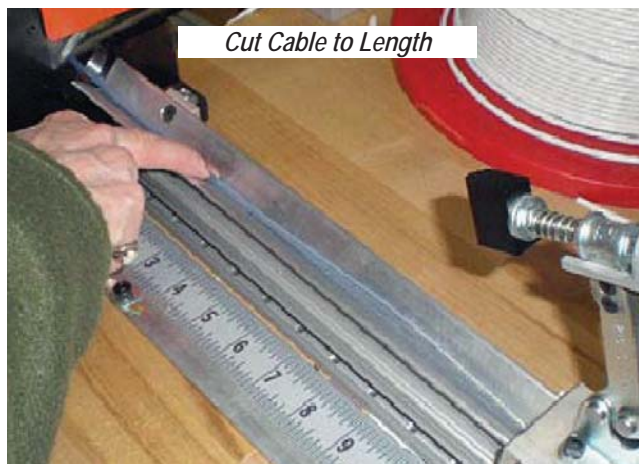

Figure 3
- Using an appropriate cable cutter, cut the cable to the proper length. See Figure 3.